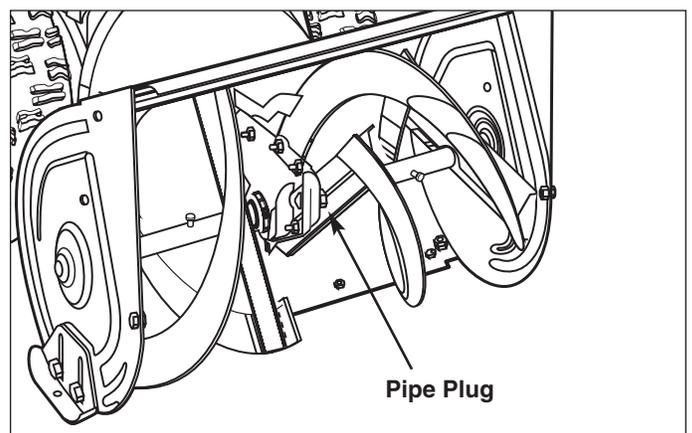

Figure 14. Checking Auger Gear Case Lubrication
2. Remove the Pipe Plug (Figure 14).